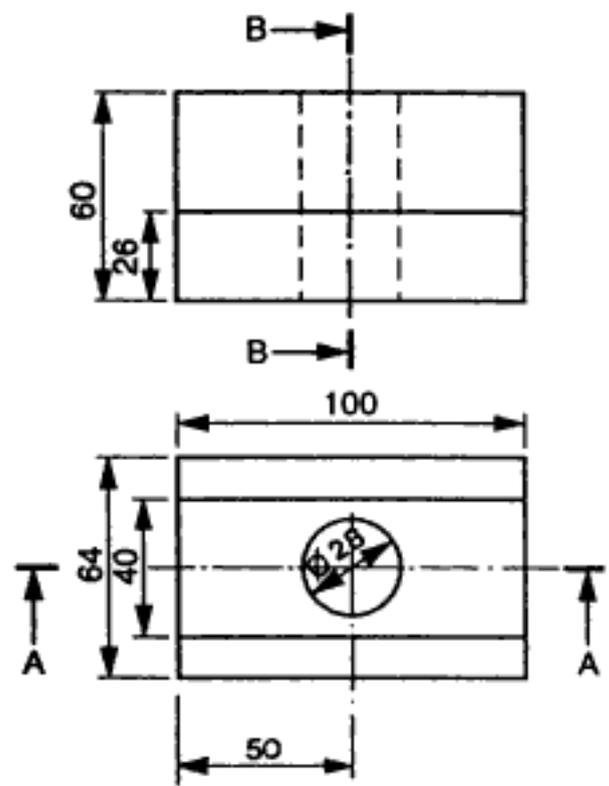

Fig 7.19
- 3 Fig 7.19 shows two views in first angle orthographic projection of a block. Draw in first angle orthographic projection and full scale the following three views of the block: